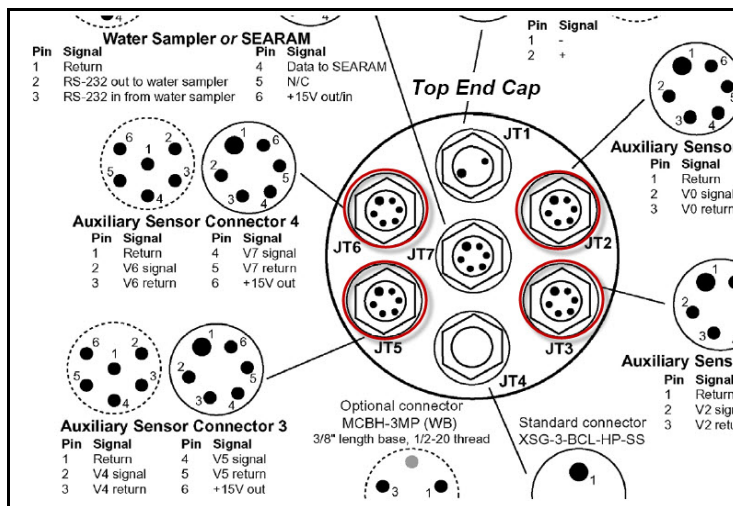

Figure 10: Auxiliary Sensor Connections on SBE.
- Connect AG206-FS between open Auxiliary Sensor Connection on CTD (Figure 10) and AG306-BCL on battery case, securing extra cable to rosette as needed. Inspect, clean and slightly grease all underwater connectors prior to installation.